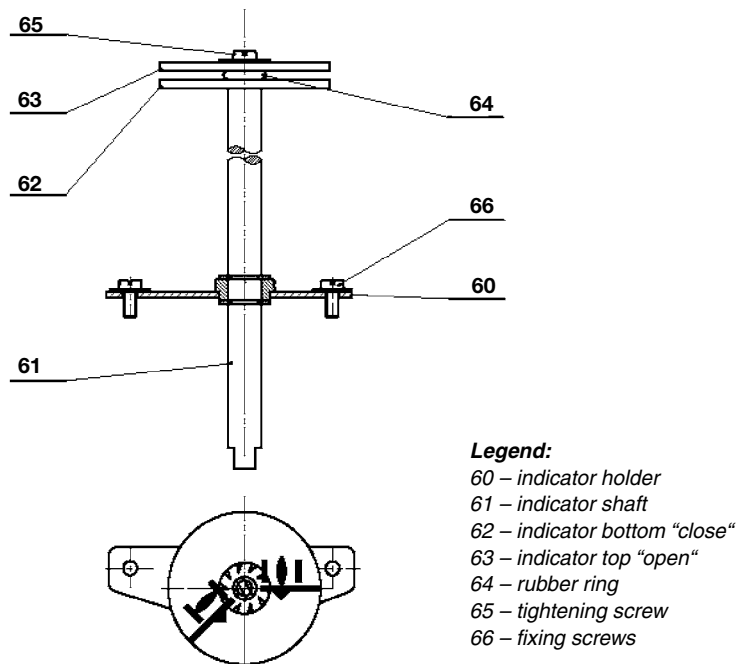

Fig. 6 - **Indicator assembly**
Before setting the position-limit switching and signalling unit, the assembly of the position indicator (Fig. 6) should be removed by loosening the screws 66 to allow for access to the screws of cams 1, 2, 3, 4. After setting the unit, the indicator assembly is re-screwed and adjusted according to point d.
The local position indicator serves for orientational determination of position of the output shaft. It is connected in a detachable mechanical way to pillars of the position-limit switching and signalling unit and dragged by the groove in the shaft of cams of this unit. In adjustment of the cams of the position-limit switching and signalling unit, the complete assembly of the indicator (*Fig. 6*) should be dismantled by loosening the fixing screws pos. 66.
First, set the output shaft of the actuator to the position “close” and detect position of the mark “close” in the sight hole of the fitted cover with respect to the mark on the sight hole. Remove the cover and set the mark “close” of the bottom indicator pos. 62 to this point according to Fig. 6 after loosening the screw pos. 65. After re-fitting the cover, check accuracy of setting the marks against each other and, if necessary, correct the position. Then, move the output shaft of the actuator to the position “open” and detect position of the mark “open” with respect to the mark on the sight hole. Remove the cover and set the mark “open” of the top indicator pos. 63 to this point and retighten the screw pos. 65. Care should be paid not to change the already set position of the bottom indicator “close”. After fitting the cover, check once again accuracy of setting the marks against each other and, if necessary, correct the position. The indicator is now set for both limit positions.